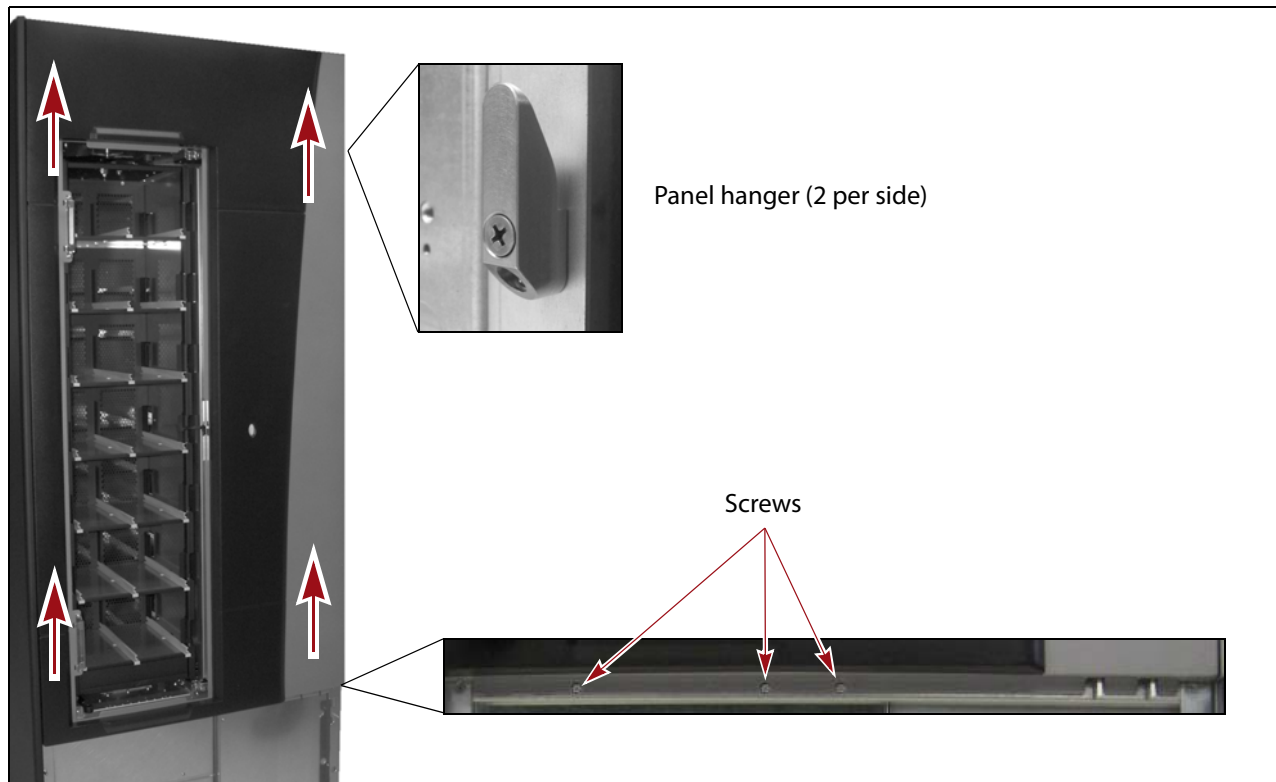

Figure 16 Remove the screws and slide the front panel up and off the hangers.
3. Using a #2 Phillips screwdriver, remove the three screws that secure the bottom of the front panel to the frame (see Figure 16 on page 22).